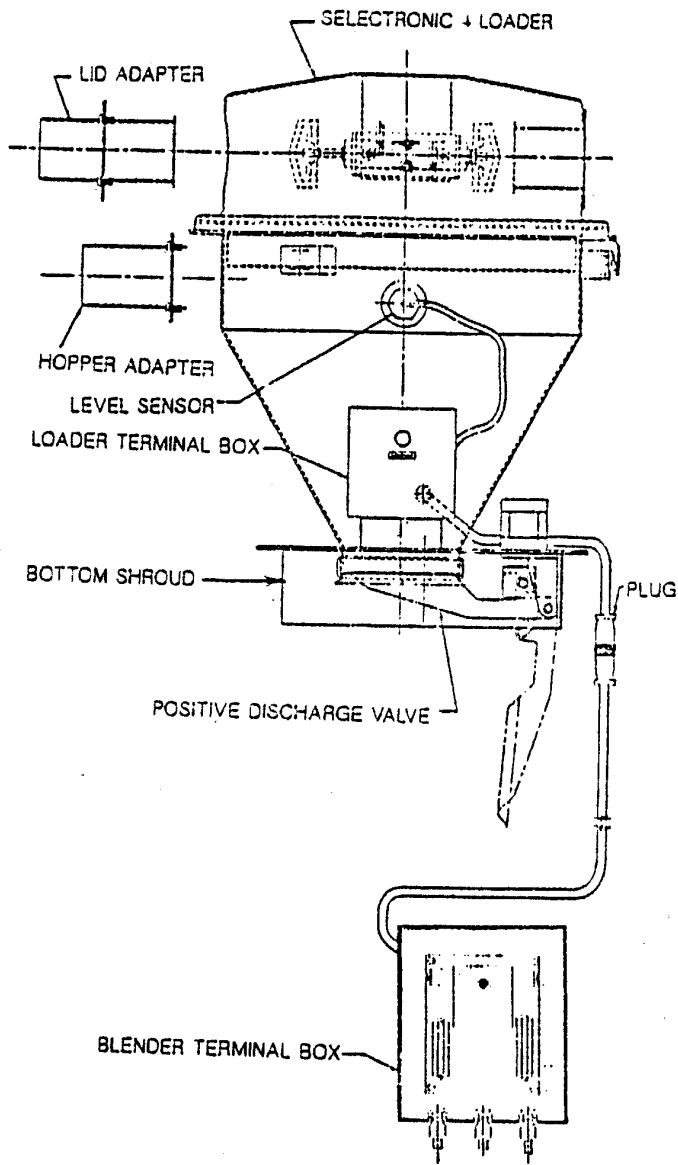

Figure 7 - LOADER
LOADER INSTALLATION See Figure 7
1. Check the sensor's mounting and position - The mixer sensor(s) should be positioned so that its top is flush with its mounting coupling as shown in FIGURE 7.